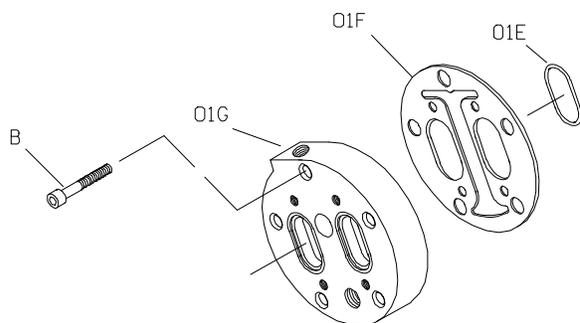

Figure E-2. Typical Head Jacket Assembly
If your pump is equipped with an optional head jacket, see Figure E-2 and remove the capscrews (B) securing the head jacket (01G), gasket (01F) and O-rings (01E) to the head assembly (01A, Figure E-1). Refer to Jacket Option Appendix H for Inlet and outlet location.
(Figure E-2 And E-3)